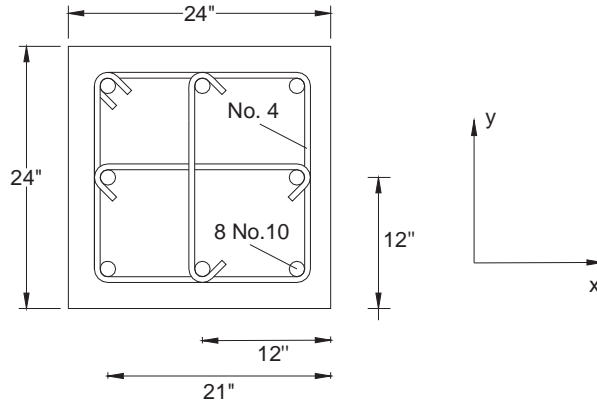
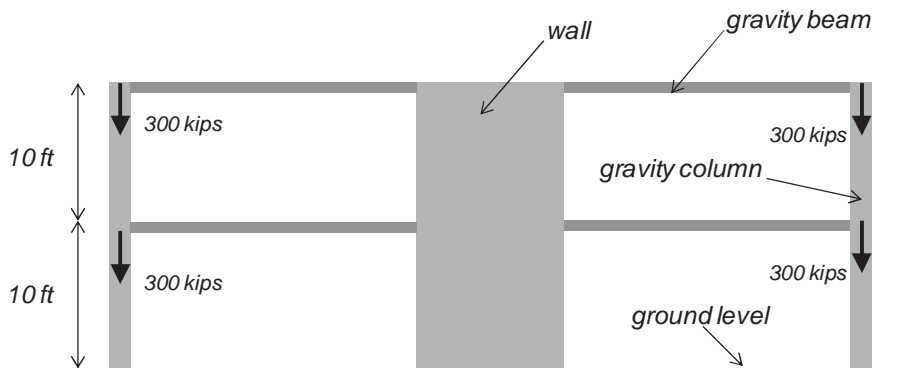

Figure 3. Section view of column and reinforcing steel layout.
Figure 4. Elevation of structural system consisting of wall coupled with a gravity system.
2.1) For the column shown in Figure 3: $f'_c = 6$ ksi, and $f_y = 60$ ksi. The effective depth of the column is $d = 21$ inches. Under combined factored axial load $P = 600$ kips and flexure determine the nominal flexural (M_n) resistance, for bending about the y axis, of the column. **Consider the contribution of steel in compression. (20 points)**
2.2) The structural system shown in Figure 4 consists of a wall coupled with a gravity system and is designed for earthquake resistance. Due to deformation compatibility with the wall the gravity columns of the bottom story are required to be designed to be able to develop their probable flexural strength M_{pr} . If the gravity columns have the section shown in Figure 3 design the shear reinforcement of the columns of the bottom story. Show the design shear force diagram as well as an elevation of the transverse reinforcement layout. The vertical loads given are already factored. **(30 points)**